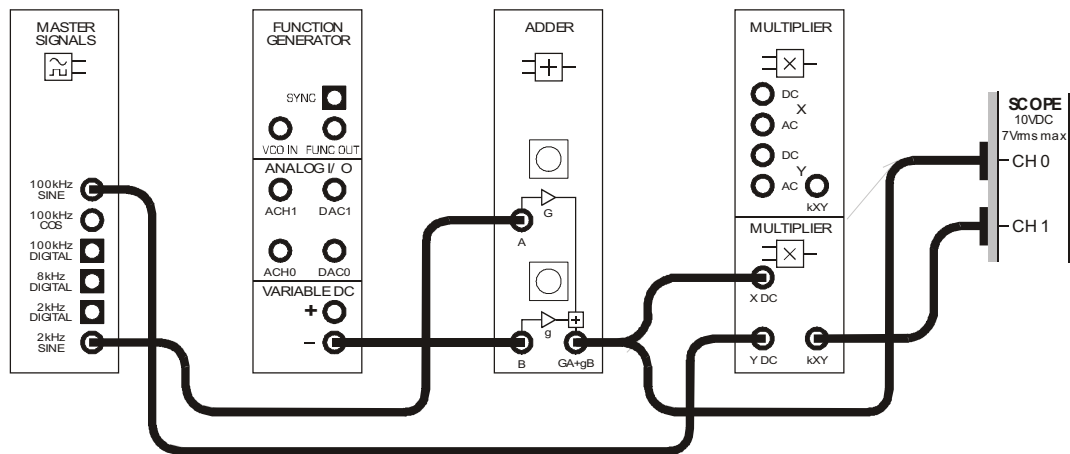
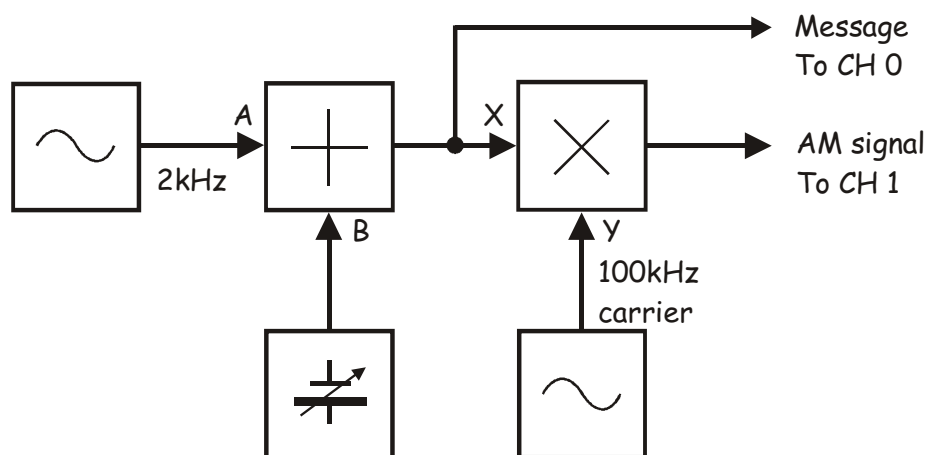

Figure 2
Figure 3
14. Connect the set-up shown in Figure 2 below.
The set-up in Figure 2 on the previous page can be represented by the block diagram in Figure 3 below. It generates a 100kHz carrier that is amplitude modulated by a 2kHz sinewave message.
A common misconception about AM is that, once the signal is over-modulated, it's impossible to recover the message. However, when the AM signal is generated using an ideal or near-ideal modulator (like Figure 3) this is only true for the envelope detector.